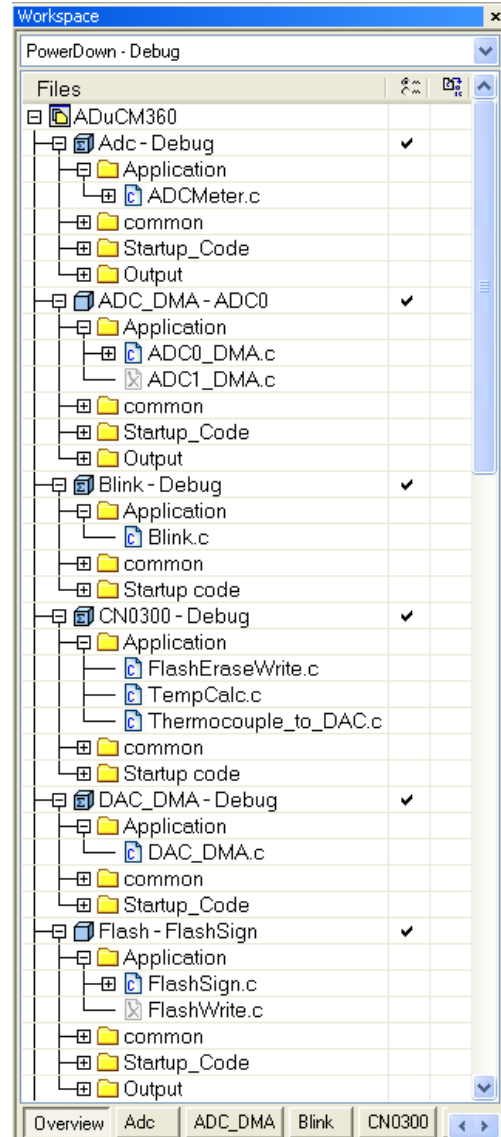

Figure 36. Individual Projects
- The workspace opens and the individual projects are launched as shown in Figure 36.